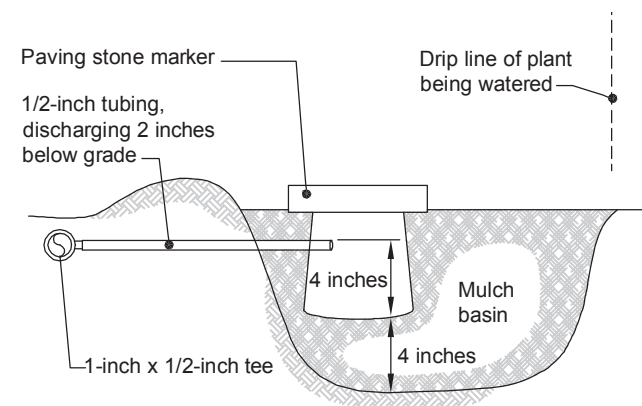

Figure 4. *Mulch shield placement.*
3. Make or buy a “valve box” or “mulch shield” for each graywater outlet (Figure 4). Mulch shields can be made out of 1- or 3-gallon flower pots. Put the pot upside down (so the bottom is on top) and make a “lid” by cutting the bottom of the pot so that it can be flipped up like a lid on a can (leaving a section intact to hold the “lid” in place). Drill a hole 2 inches below the “lid” for the graywater tube to enter. Then cut off the rest of the pot 4 inches below the hole you made for the graywater tube. If a more sturdy shield is needed, a valve box can be purchased and altered in a similar way.